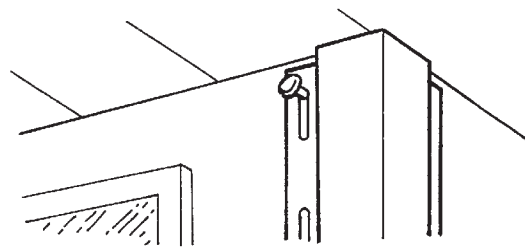

Figure 49.
- Place the first nails in the uppermost end of the top nail slots to hold them in position (Fig. 49). Place all other nails in the center of the slots. Nails should be 8" to 12" apart.